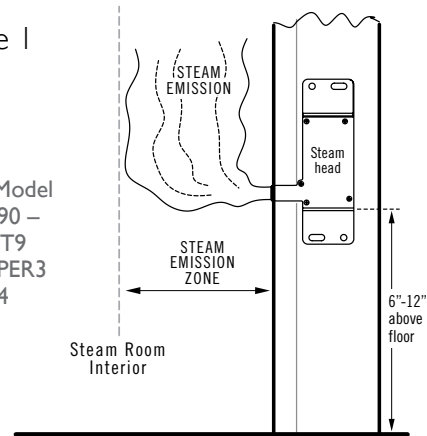

Figure 2
- Use a level to ensure the steam head is level in both the horizontal and vertical positions (see Fig.2) and the steam head face is flush or extend 1/8" from the finished wall surface. Install the four screws in the mounting holes to secure the steamhead.